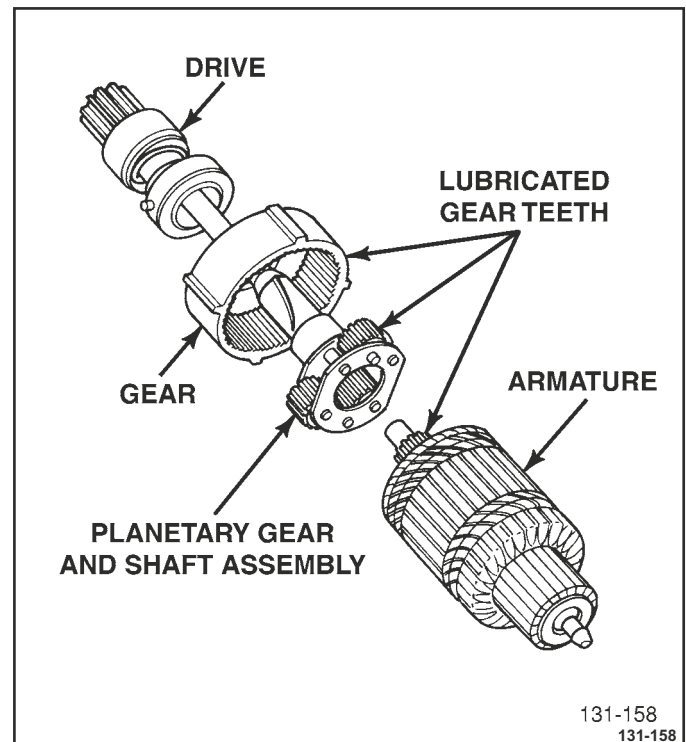

Figure 4-19 Armature and Drive Assembly
1. Lubricate inner gear teeth and bearing, planetary gears, and armature shaft gear teeth lightly with lubricant. Refer to figure 4-19.